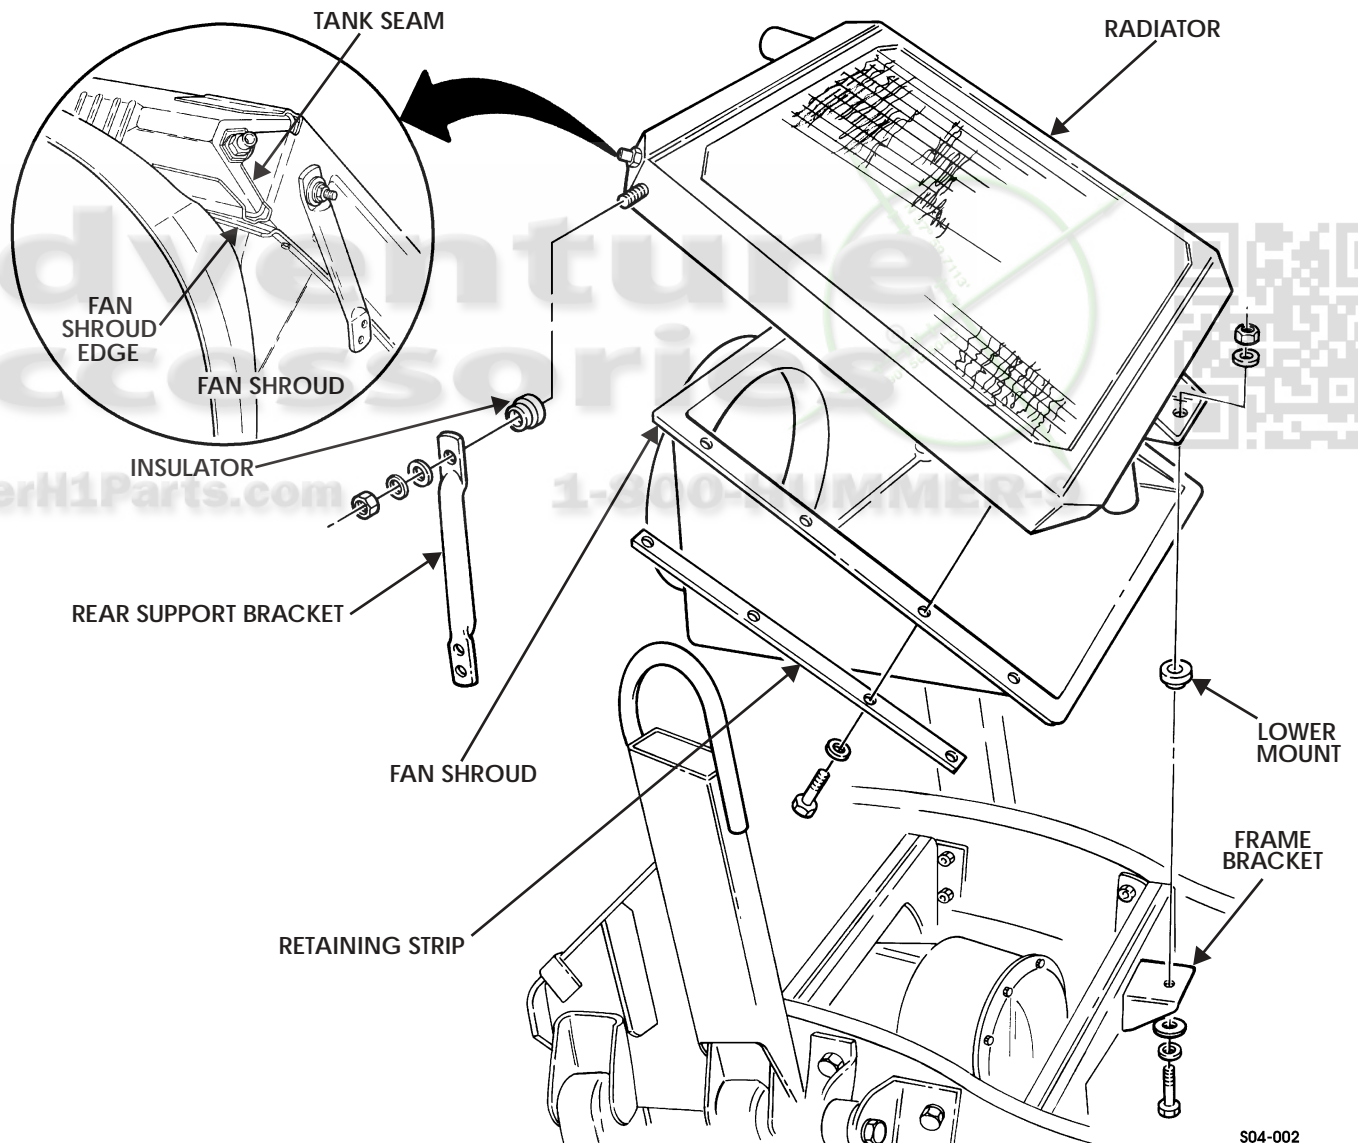

Figure 4-4: Radiator and Fan Shroud Assembly
- Remove locknut, washer, capscrew, large washer, washer, and lower mount from radiator and frame bracket. Discard locknut (Figure 4-4).
- Remove the radiator from vehicle (Figure 4-4).
1. Install fan shroud on radiator with two retaining strips, eight lockwashers, and capscrews. Tighten capscrews to 6 lb-ft (8 N•m) (Figure 4-4).
5. Install lower mount and radiator on frame bracket with washer, large washer, capscrew, washer, and locknut. Do not tighten capscrew (Figure 4-4).
7. Tighten rear support bracket locknuts to 26 lb-ft (35 N•m). Tighten frame bracket capscrew to 30 lb-ft (41 N•m) (Figure 4-3) and (Figure 4-4).